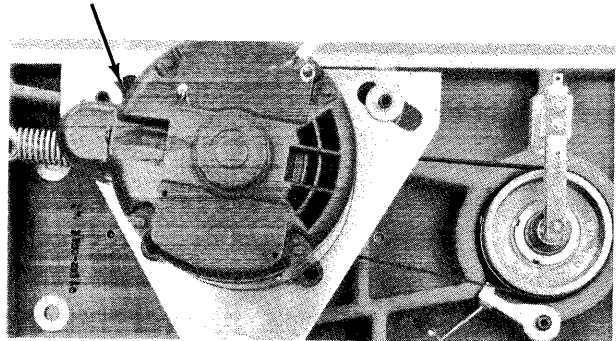

Figure 4-15. Drive Belt Tension Check
- l. Insert spring scale gauge in elongated hole on left side of motor mount (see Figure 4-15).